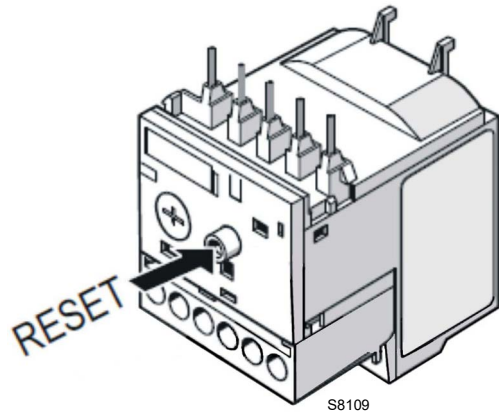

Fig. 40
- To reset, in the case of an intervention of the thermal relay, press the button "RESET" (Fig. 40).